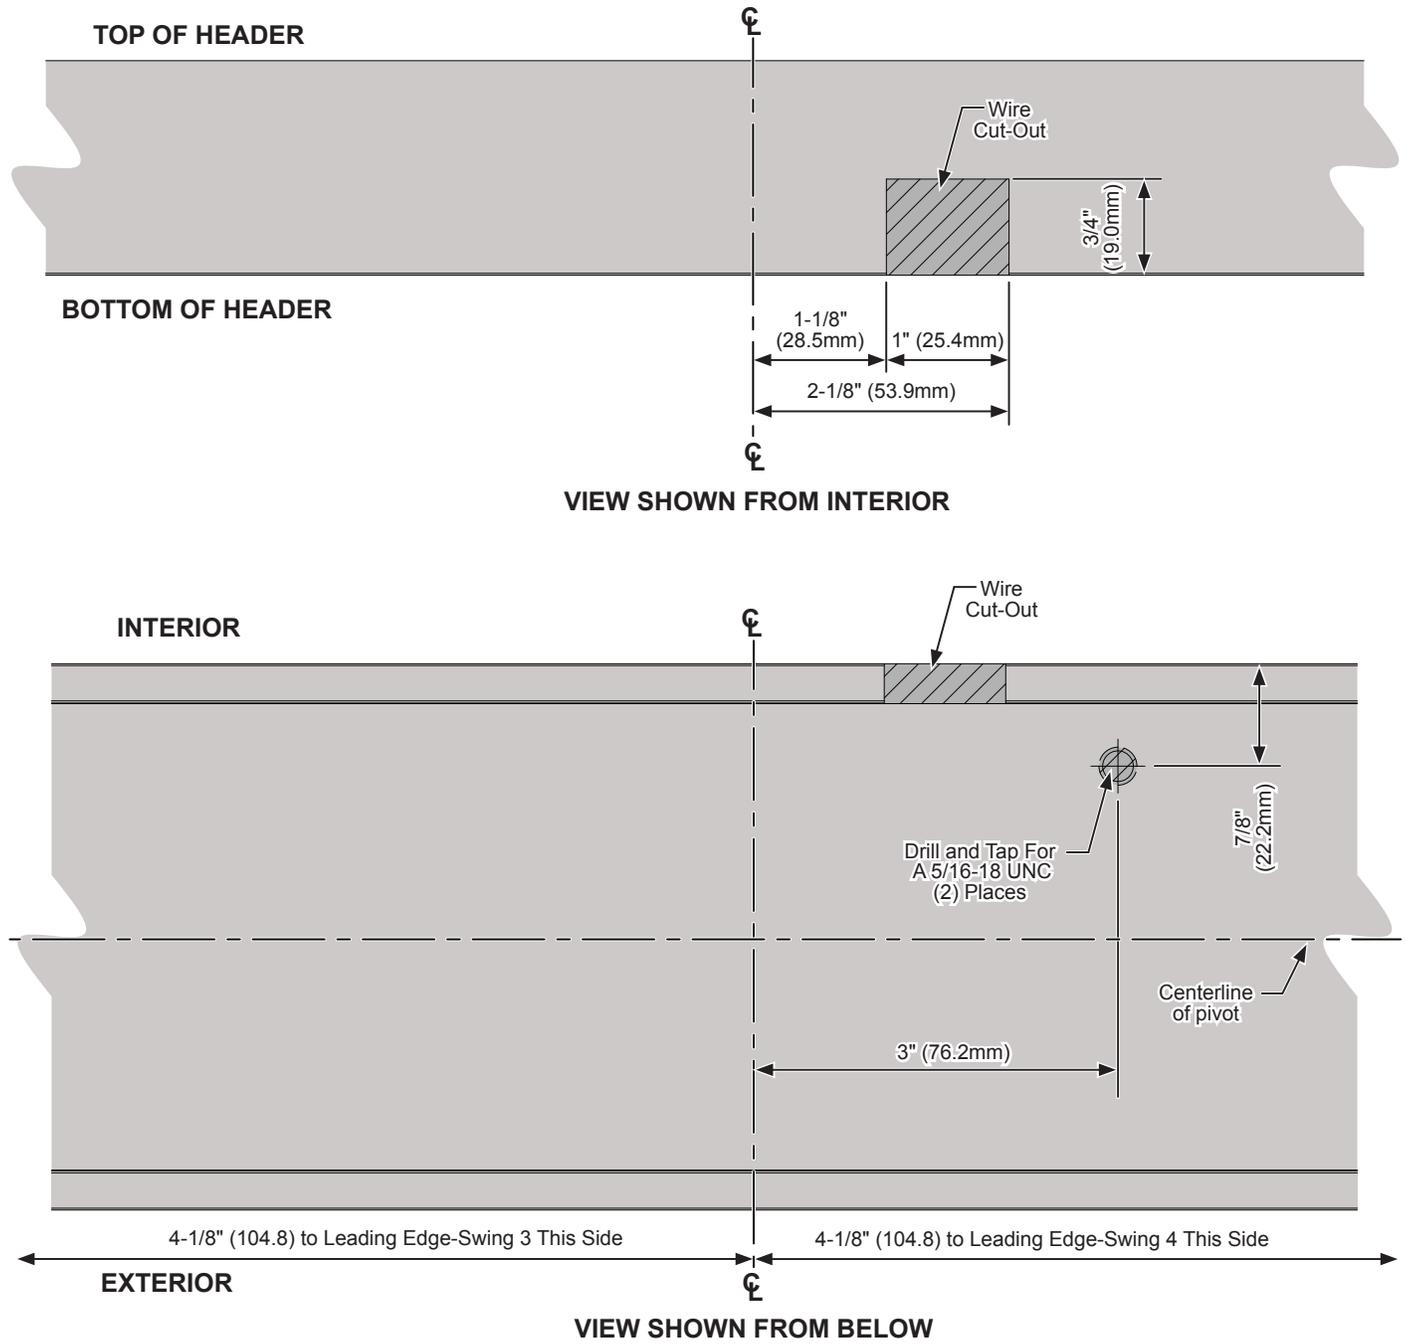

FIG. 2
2. Mark the centerlines and the layout on the header as shown in. **(Fig. 2)**